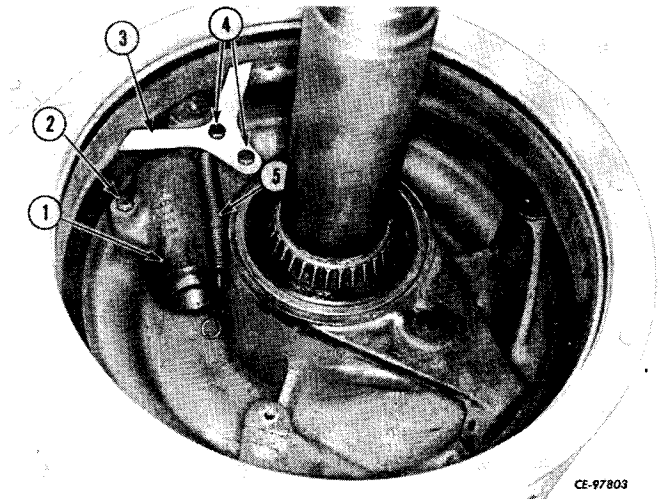

Figure 14-12
Remove cap screws (2, 4, Fig. 14-12), clutch band retainer (3) and clutch cylinder (1). Return spring (5) will loosen. Remove and discard "O" ring from under clutch cylinder.